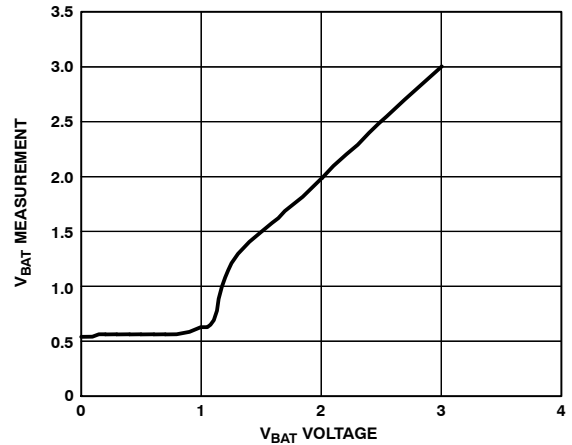

Figure 14.  $V_{BAT}$  Measurement vs. Voltage
- Total unadjusted error (TUE) includes offset, gain, and linearity errors of the ADC, multiplexer, and on-chip input attenuators.  $V_{BAT}$  is accurate only for  $V_{BAT}$  voltages greater than 1.5 V (see Figure 14).